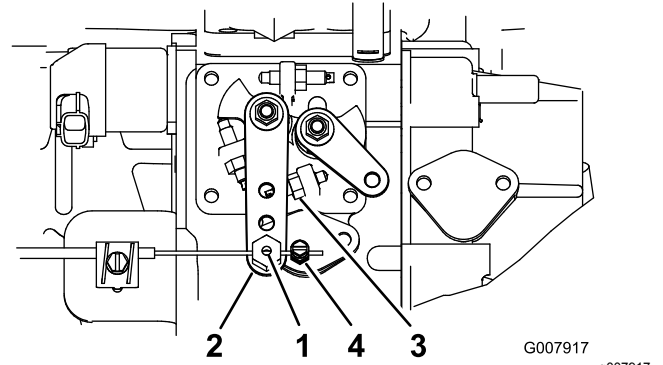

Figure 55
2. Loosen the throttle cable connector, on the throttle cable, next to the injection-pump lever (Figure 55).
3. Hold the injection-pump-lever arm against the high-idle stop (Figure 55).